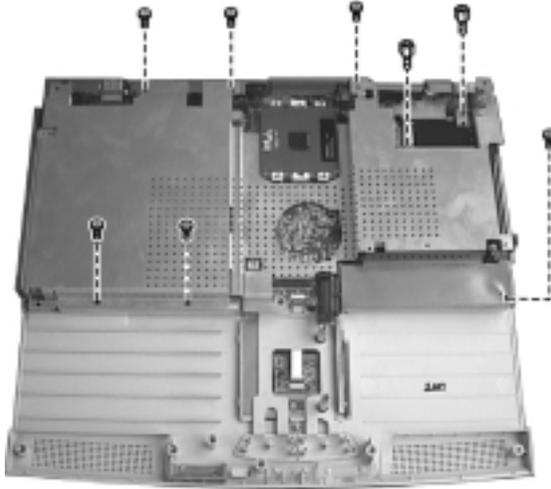

Figure 5-23
6. Remove six screws and two hexnut screws fastening the metal shield, and then lift the shield up from the system board carefully. (figure 5-23)